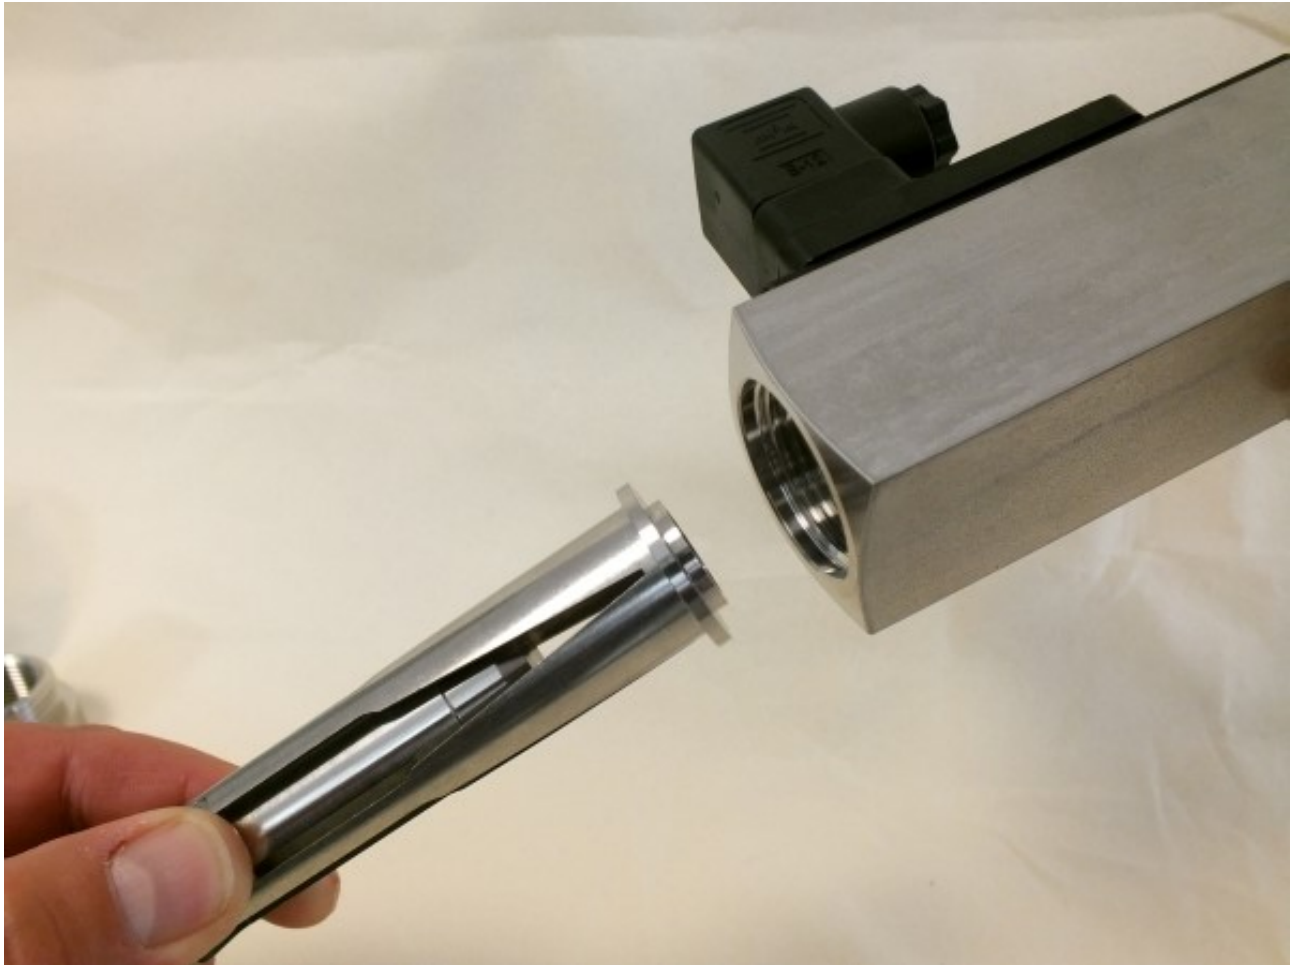

Fig. 53: Insert inner parts
7. ➤ Insert centering disc (inlet), float and slot nozzle into the device body (*Fig. 53*)